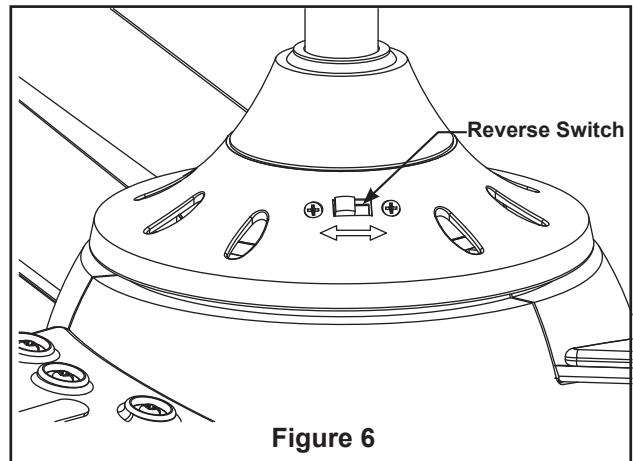

Figure 6
6. Secure the glass to the LED assembly by twisting in a clockwise direction. Do not over-tighten. (Figure 6)
6. If airflow is desired in the opposite direction, turn the fan off and wait for the blades to stop turning. Slide the reverse switch on top of motor assembly to the opposite position and turn fan on again. (Figure 6)